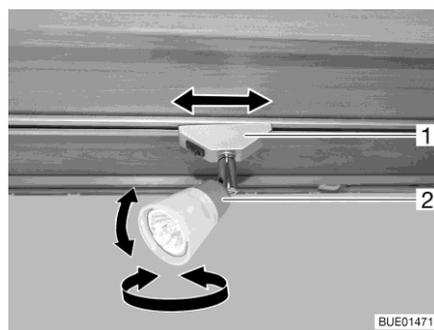

Fig. 43 Spotlight (Campeo)
- Turn housing (Fig. 43,2) of the spotlight to the desired direction. The housing can be turned in following directions:
- Turn holder (Fig. 43,1) through approx. 45°.
- Turn holder (Fig. 43,1) through 90°.